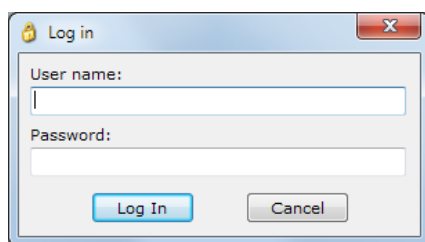

Figure 36-1. Login Screen
1. Use the Settings Explorer in BESTCOMSP*lus* to select Username Setup under General Settings, Device Security Setup. The Login dialog box appears. See Figure 36-1. An administrator access level is required to set up usernames and passwords.
- The Login dialog box pops up. See Figure 36-1. An administrator access level is required to set up port access. Enter the username and password of the administrator and then click the Log In button. The default administrator username is “A” and the default Password is “A”.